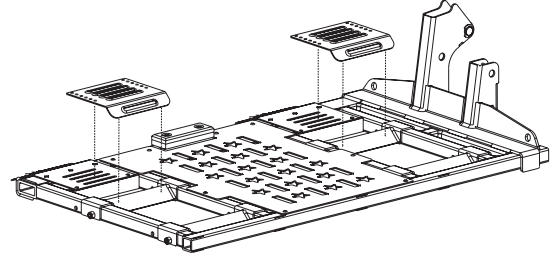

Figure 6-25
- Once satisfied with the wheel chock positions, replace the entry ramps. See Figure 6-25.